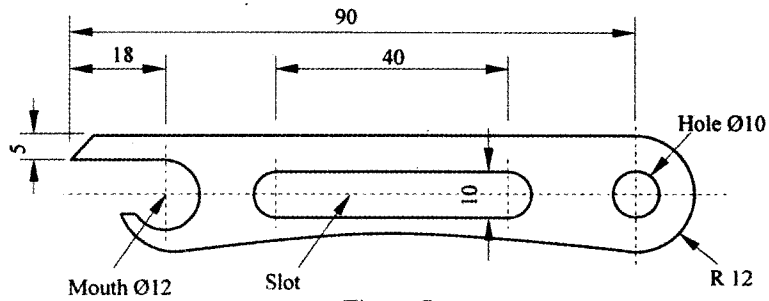

Figure 5
- (b) Figure 5 shows a bottle opener made from a 3.0 mild steel plate 105 x 25 x 3.